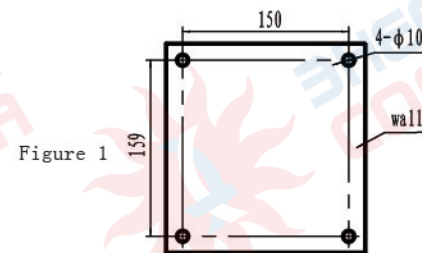

Figure 1
1、In-wall Installation: The pump station should be wall-mounted vertically. Fix the tapping screw or other fixing tool in the reserved wall (Figure 1 shows the drill hole size). Then mount the pump station on the wall.